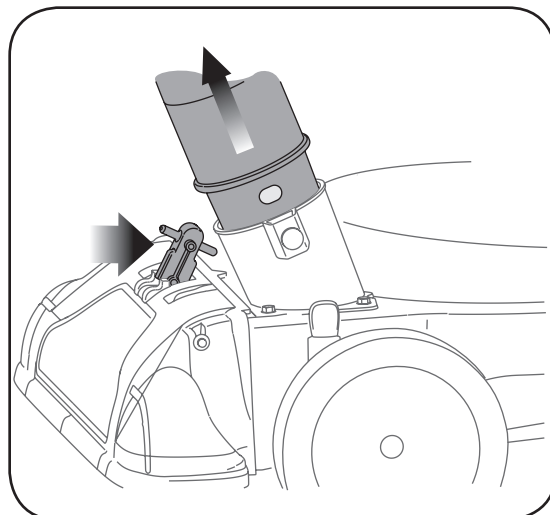

Figure 4-5
1. Place nozzle/hose vac lever in the top position on the nozzle to vacuum through nozzle. See Figure 4-5.
2. The spring loaded pin must be in the first hole (closest to the end of the tube) of the hose adapter to operate the nozzle vac. See Figure 4-5.